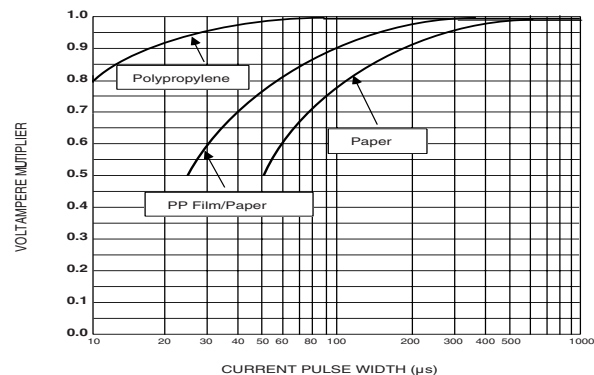
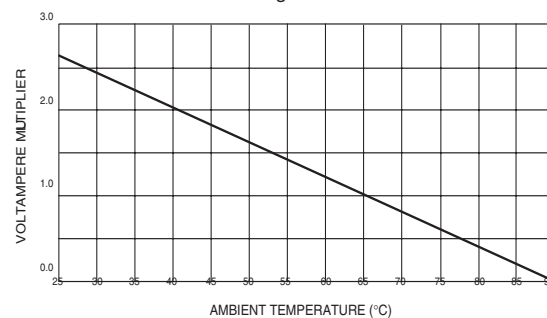

Figure 2
Figure 3
4. Check that your application's volt-amperes is not more than the capacitor's VA capability. The VA capability is the max VA rating times the Volt-Ampere multiplier from Figure 2 (Current Pulse Width) and that times the Volt-Ampere Multiplier from Figure 3 (Ambient Temperature). See the following section for more on using volt-ampere multipliers.